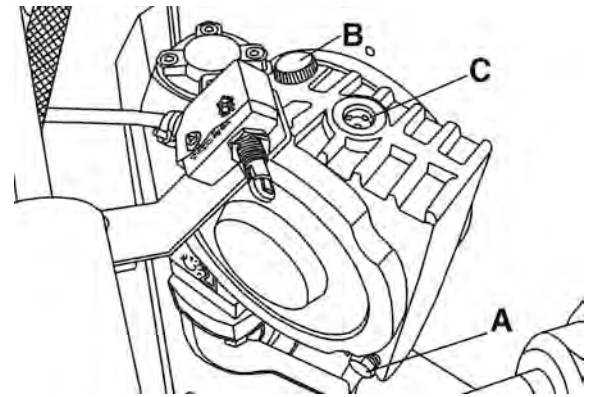

FIGURE 27
4. Drain the gear box by removing drain bolt (A) Fig.27.
5. Replace drain bolt (A) and lower the saw arm to its lowest position.
6. Remove oil cap (B) and fill the gear box with oil through the oil cap opening until the oil level reaches the halfway mark (red dot) in the oil sight glass (C). Reposition the oil cap (B).